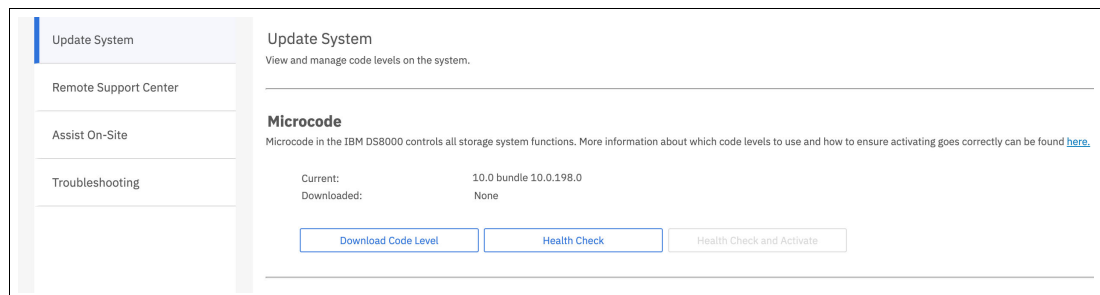
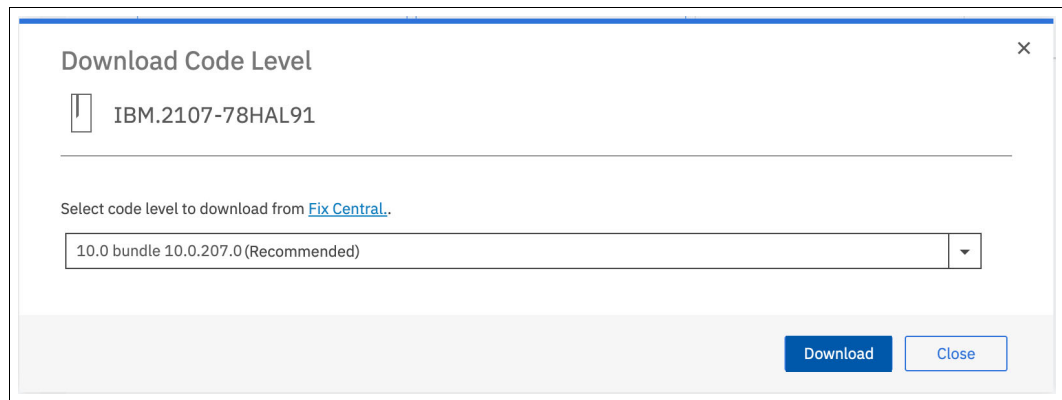

Figure 11-6 Storage Manager GUI: Update System menu
Figure 11-7 Microcode level query
This option is available under **Settings** → **Support** → **Update System**, as shown in Figure 11-6.
Figure 11-6 on page 394 shows the Update System menu when there are no code bundles downloaded to the DS8000 storage system. The Health Check and Activate option is enabled after the download of the microcode completes.
1. To download the microcode, select **Download Code Level** from the window that is shown in Figure 11-6 on page 394, which immediately begins a microcode bundle query of IBM Fix Central for a list of codes that the customer can select. This query displays only higher or equal microcode levels compared to the currently installed level on the DS8000 system. After the query completes, a new window opens in the Storage Manager GUI, as shown in Figure 11-7.